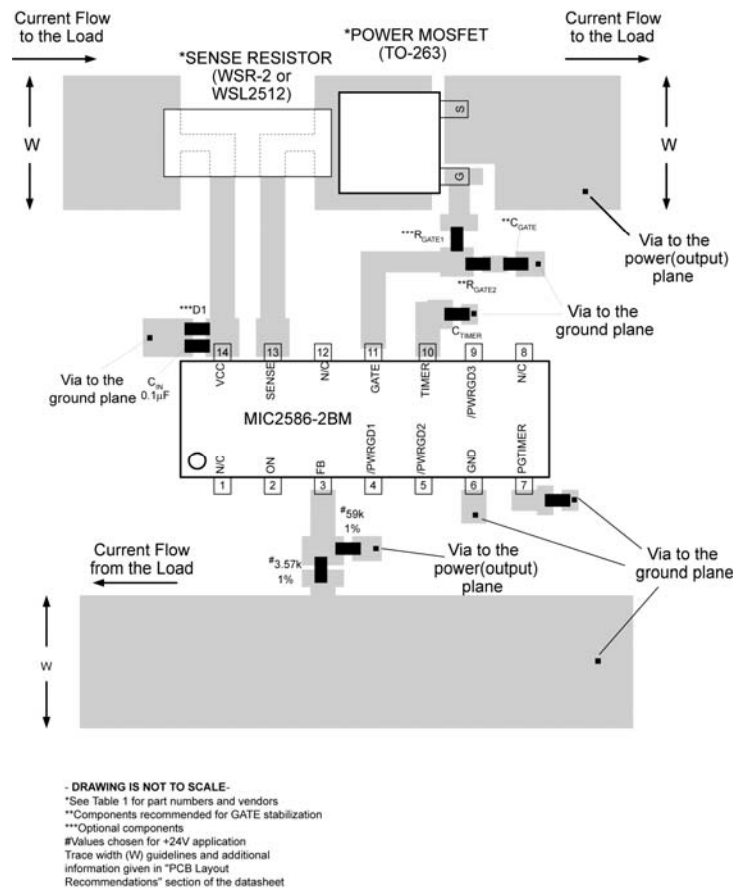

Figure 10. Recommended PCB Layout for Sense Resistor, Power MOSFET, Timer and Feedback Network.
Figure 10 is a recommended PCB layout diagram for the MIC2586-2BM. Many hot swap applications will require load currents of several amperes. Therefore, the power ( $V_{CC}$  and Return) trace widths (W) need to be wide enough to allow the current to flow while the rise in temperature for a given copper plate (e.g., 1oz. or 2oz.) is kept to a maximum of 10°C to 25°C. Also, these traces should be as short as possible in order to minimize the IR drops between the input and the load. The feedback network resistor values in Figure 10 are selected for a +24V application. The resistors for the feedback (FB) and ON pin networks should be placed close to the controller and the associated traces should be as short as possible to improve the circuit's noise immunity. The input "clamping diode" (D1) is referenced in the "Typical Application Circuit" on Page 1. If possible, use high-frequency PCB layout techniques around the GATE circuitry (shown in the "Typical Application Circuit") and use a dummy resistor (e.g.,  $R3 = 0\Omega$ ) during the prototype phase. If  $R3$  is needed to eliminate high-frequency oscillations, common values for  $R3$  range between 4.7 $\Omega$  to 20 $\Omega$  for various power